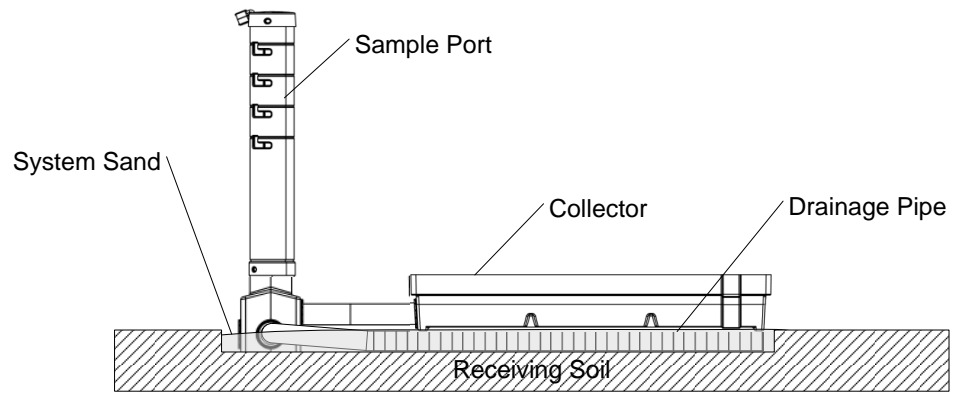

Fig. 53
- Complete the installation of the collector as shown in Fig. 53.